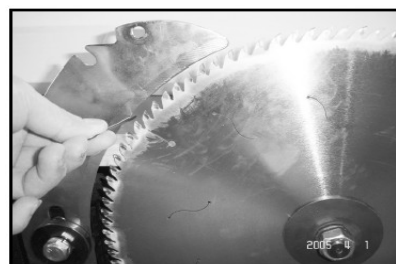

Fig. 35
9. Position the riving knife about 3mm or 1/8" away from the nearest carbide tooth on the main blade. For a quick gauge, use the 3mm hex wrench to find the correct spacing between the blade and the riving knife. (Fig. 35)